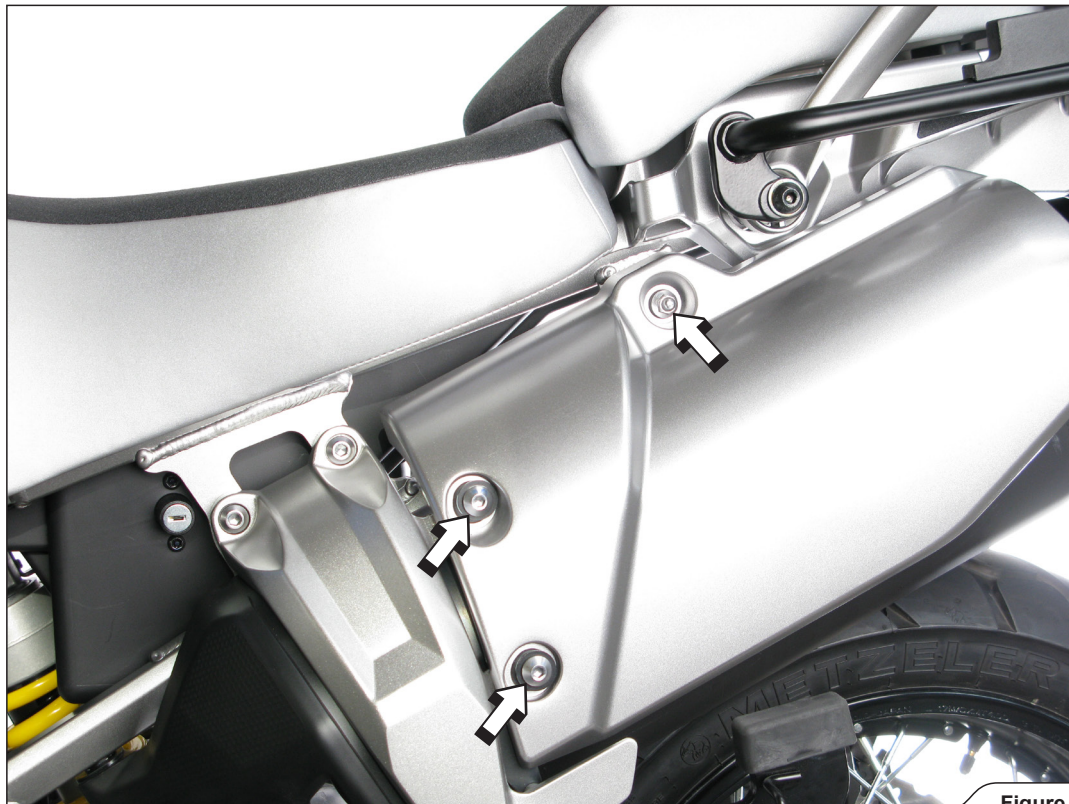

Figure 1
2. Unscrew the marked bolts of the heatshield and the muffler bracket bolt. Remove the stock heatshield (**Figure 1**).